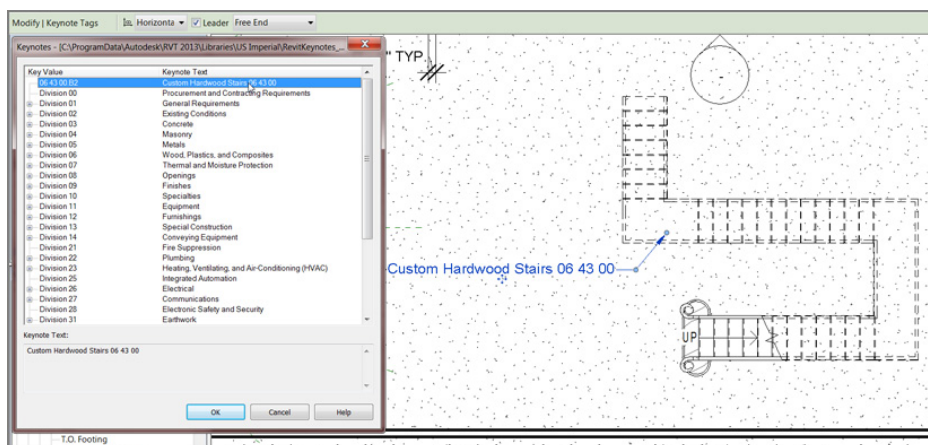

FIGURE 11.93: Picking the stairs to place the keynote
11. Pick the stairs, as shown in Figure 11.93.
- 12. In the Keynotes dialog box, your new keynote is at the top of the list (see Figure 11.93).